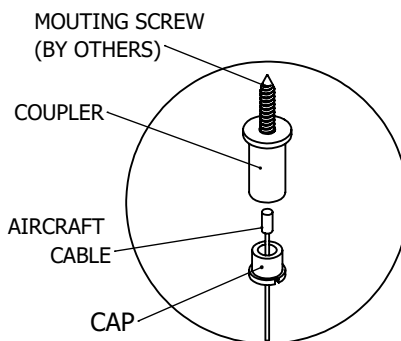

Fig. 2
2. Pass the aircraft cables through the caps (Fig. 2)